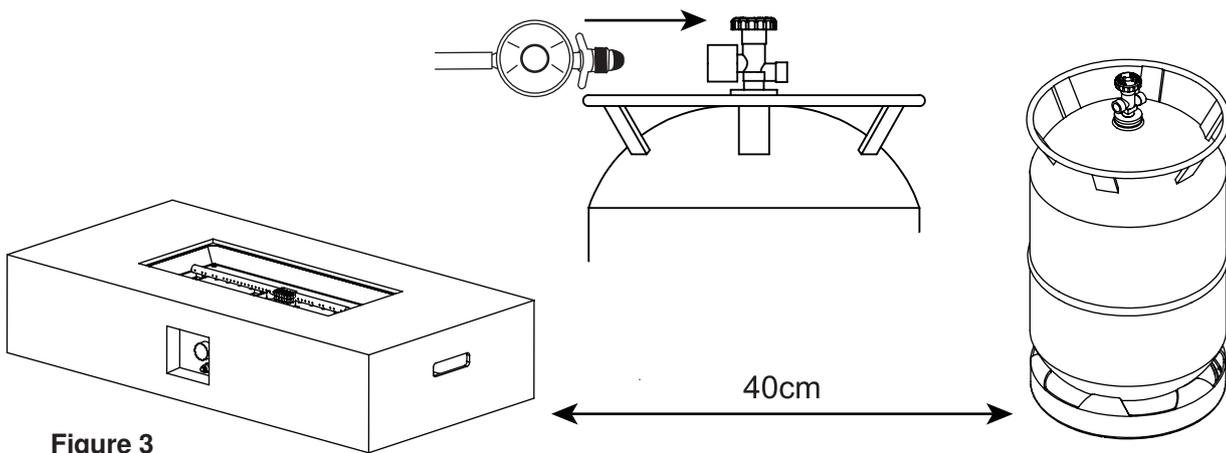

Figure 3
5. Connect the regulator to the gas tank valve and tighten securely (see Figure 3).